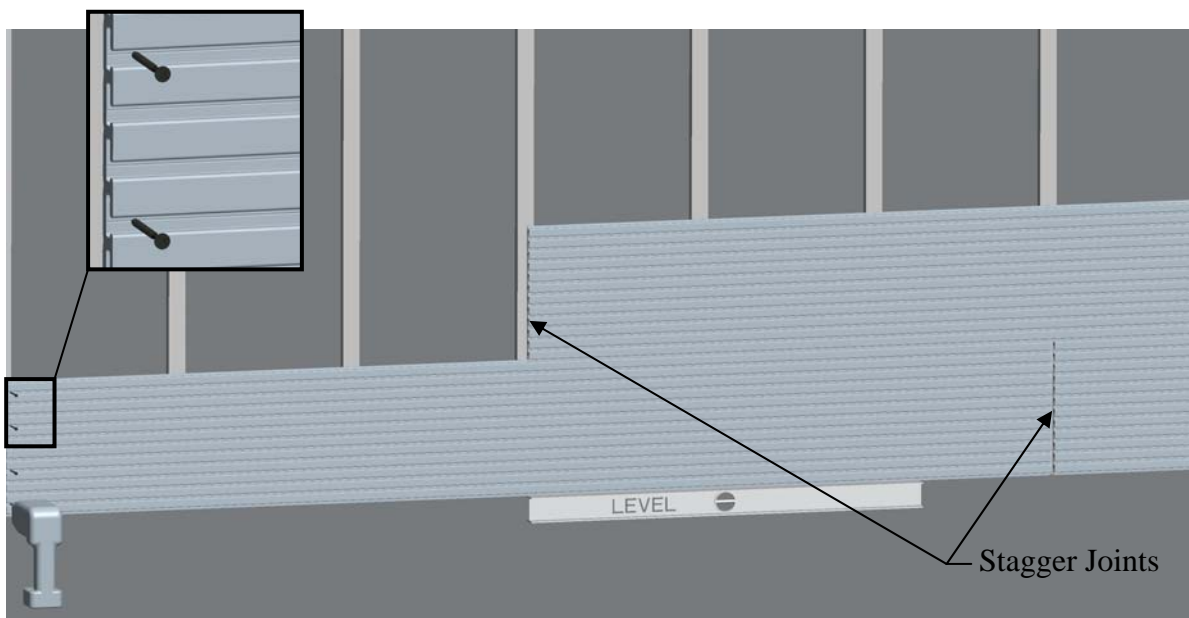

Figure 1 – Concrete Wall with Furring Strips
6. Begin the second row of panels by placing a panel on top of the first row. For best results it is recommended that vertical panel seams are staggered and aligned on furring strips as shown in Figure 1. Ensure joints are fitted correctly to maintain level and spacing. Secure panels in place as described in Step 3.